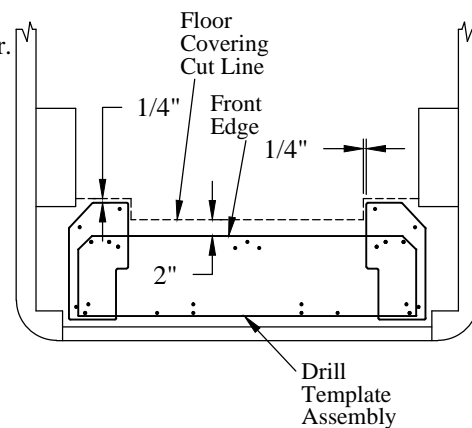

Figure 6: Floor covering cut location (top view).
6. Mark the floor covering around the template, leaving clearance as shown (Figure 6).